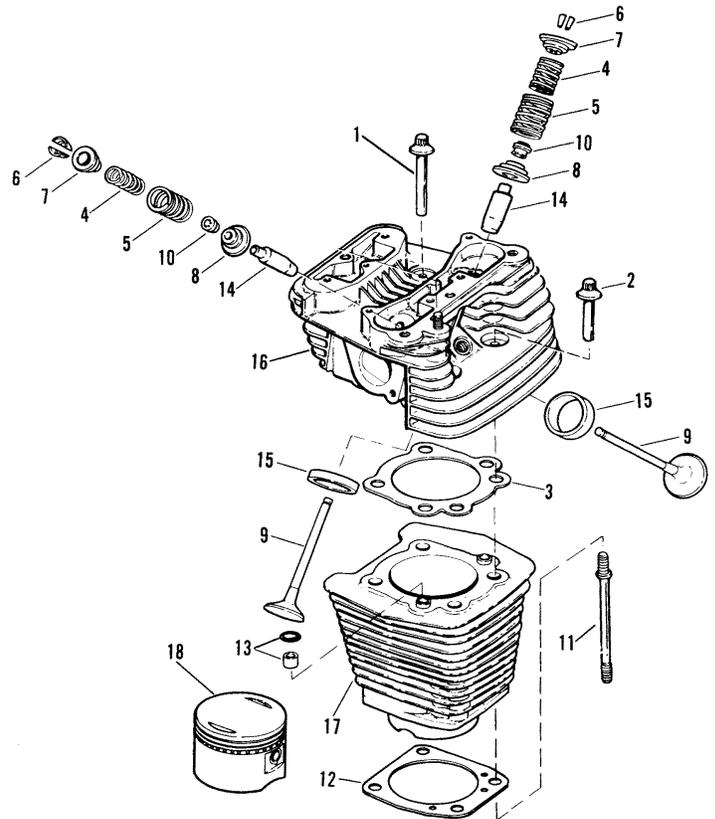
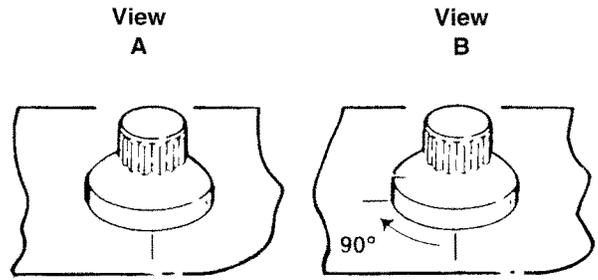

Figure 4 - Cylinder Head and Cylinder
Figure 9 - Tightening 1986-1995 Head Bolts
9. **See Figure 4.** Loosen each head bolt (1, 2) 1/8 turn following the cross pattern sequence shown in **Figure 9**.
2. Dip the head bolt threads and bottom face of bolt head in oil; then wipe off any excess. Install the head bolts (1 and 2, Figure 4) finger tight.
3. **See Figure 9.** Mark a line on the cylinder head and a corresponding line on the head of the cylinder head bolt as shown in View A. Following the same sequence 1, 2, 3, then 4, turn each bolt, one at a time one quarter turn (90°) using the marks as a guide. When marks are all positioned, as in View B, the procedure is completed.